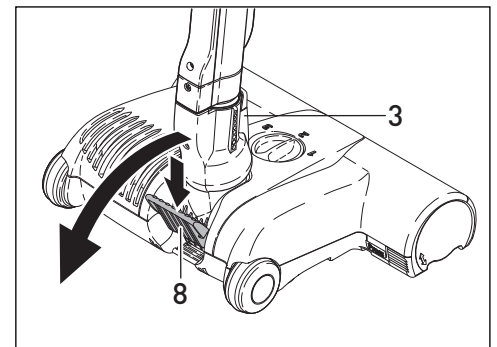

Figure 2
A. When the power head is switched on with the swivel neck (#3, figure 2) in the upright locked position, the brush roller will not spin and the on/off light will illuminate in yellow*. To release the power head from the upright locked position, press down on the foot pedal (#8, figure 2) and lower the swivel neck into the normal operating position. The brush roller will then start spinning and the on/off light on the power head will illuminate in green*.
By pushing the foot pedal (#8, figure 2) and lowering the swivel neck, you activate the power head and the brush begins spinning. Failure to use the foot pedal will cause lasting damage to the machine. The electronic brush control constantly monitors the status of the brush, communicating the status through the lights on top.